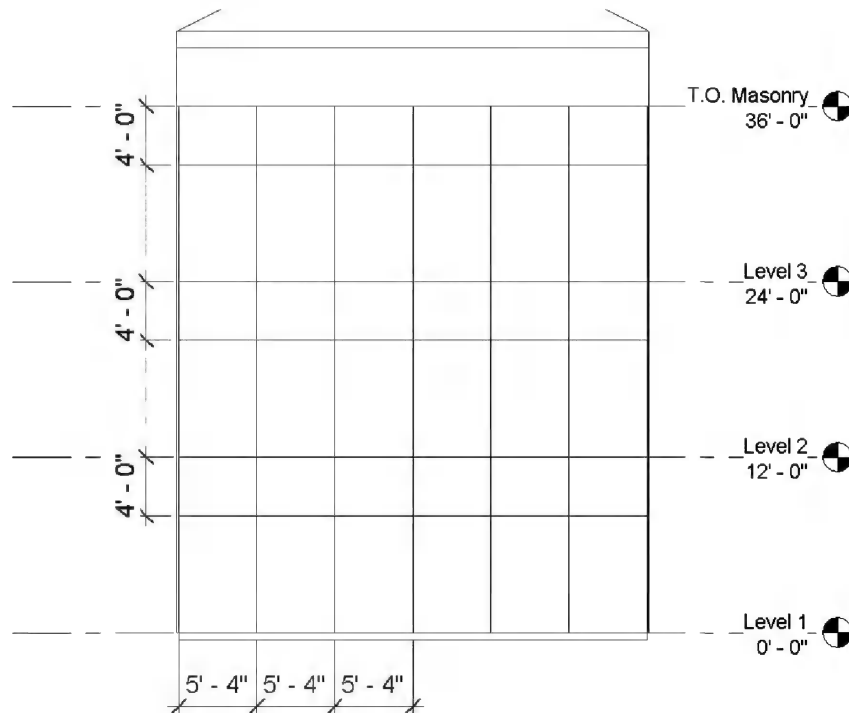

FIGURE 8-5.1 South Temp view – curtain grid added
4. Draw the grid as shown in **Figure 8-5.1**.